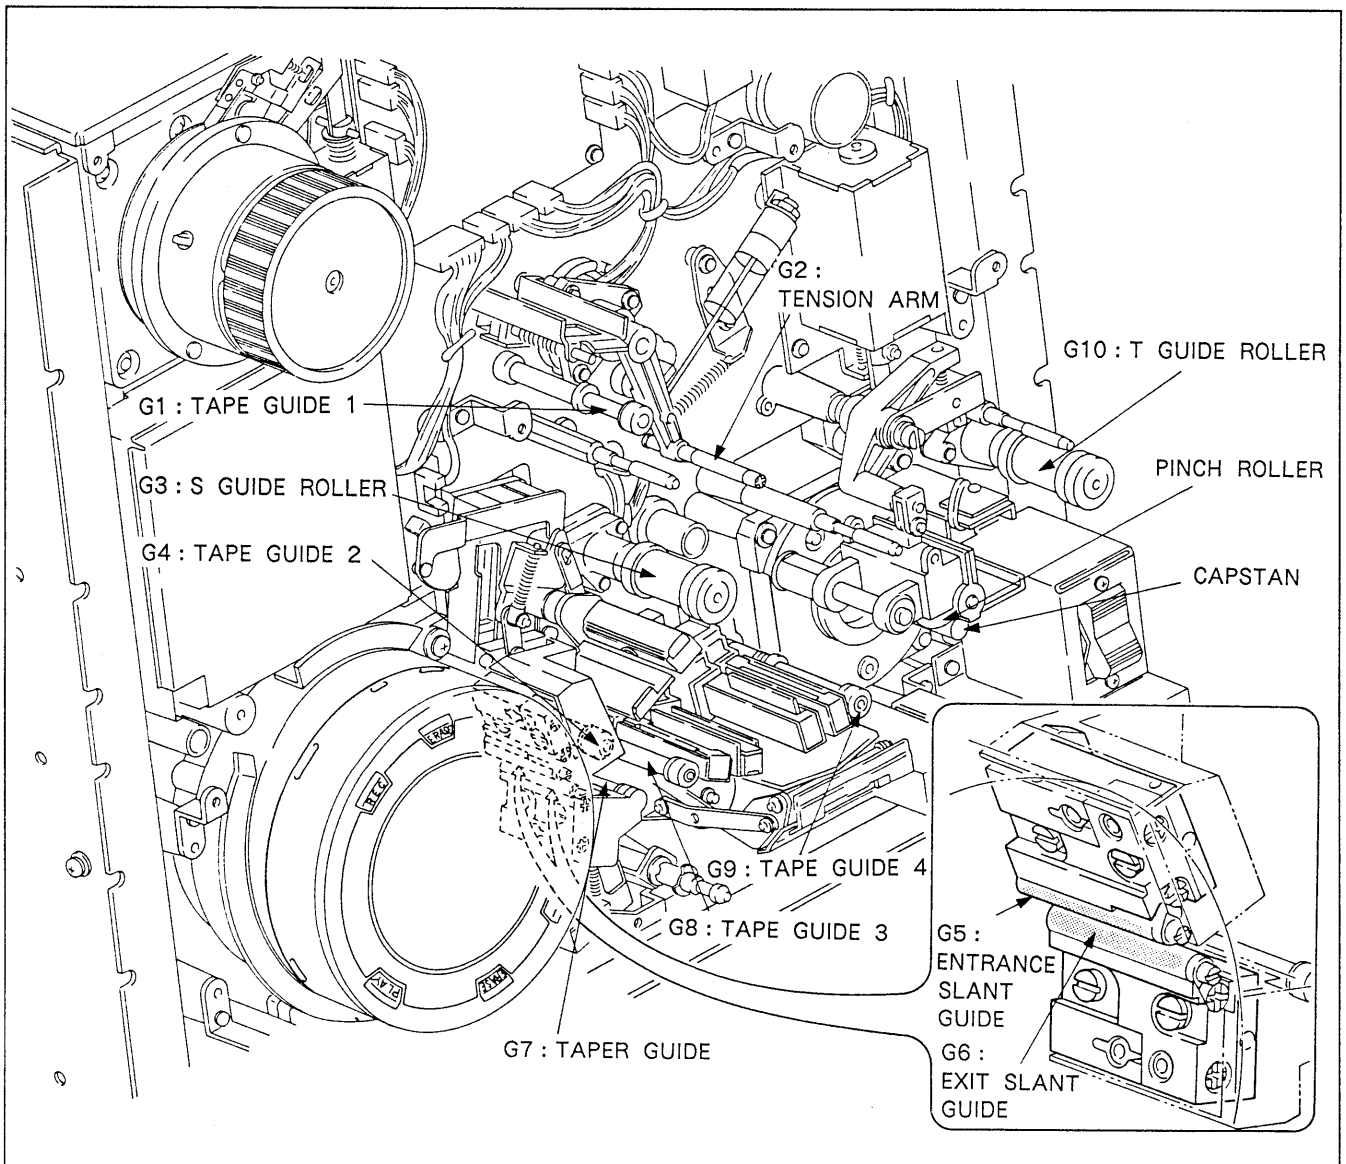

Fig. 5-2-4. Cleaning of Tape Path System
- 1) Clean the parts shown by the arrows in Fig. 5-2-4 with a cleaning cloth soaked in alcohol.